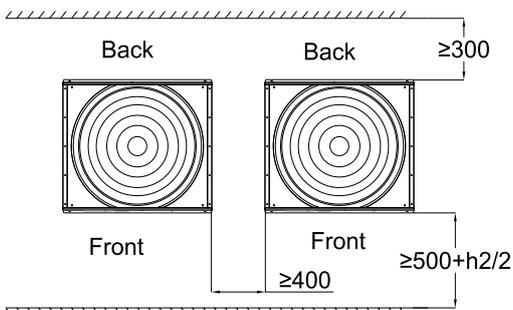

Figure 3
- Obstacles in the front and back (see Figure 3)